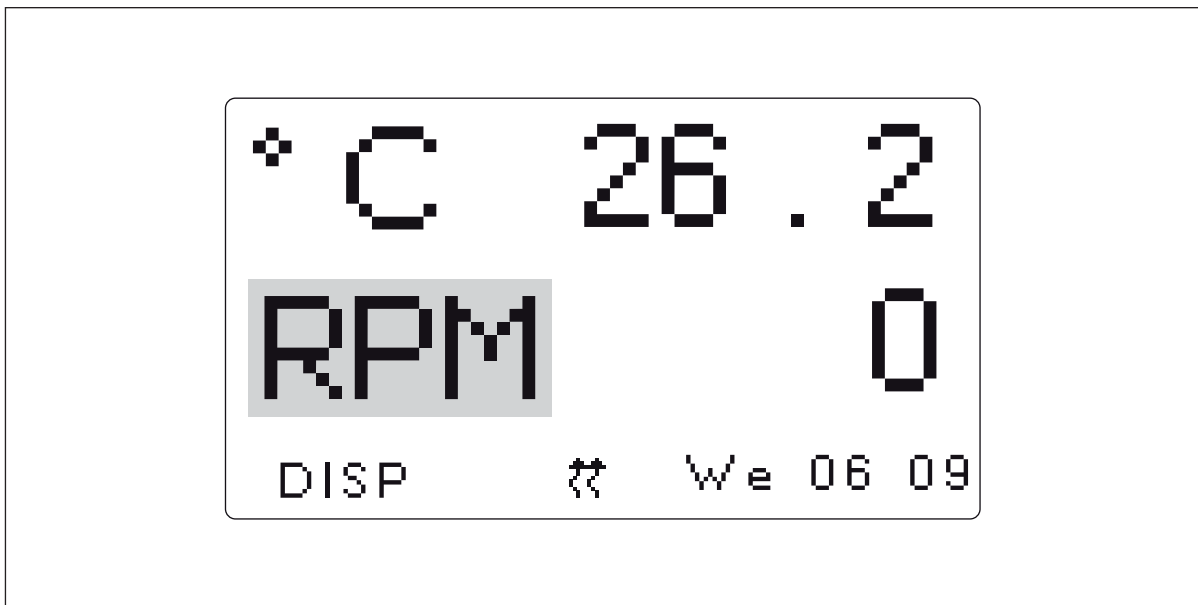

Fig. 5-2: Changing Display Parameter
1. Using the Control Knob, highlight the parameter that you wish to replace. For this example, we will replace **RPM** (see Fig. 5-2 on p. 46).